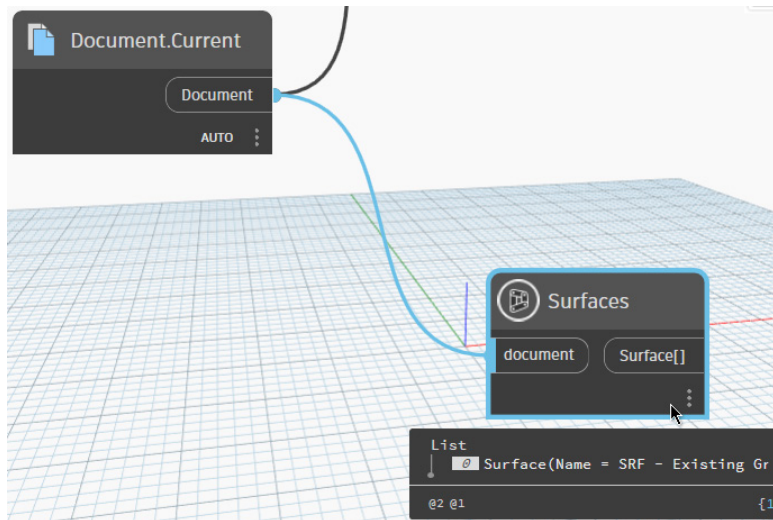

Figure 12.19 – Connecting the Document.Current node to the Surfaces node
4. Connect the **Document.Current** node to our **Surfaces** node with a wire (as shown in *Figure 12.19*)